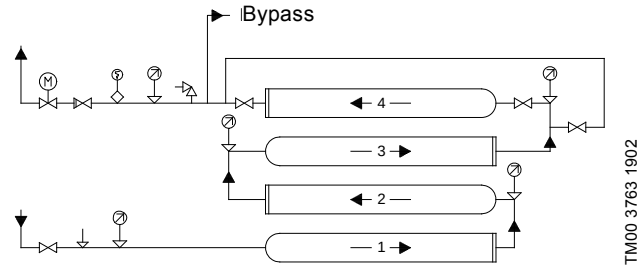

Fig. 9 Booster system with four modules connected in series with bypass, mounted above each other
- For modules connected in series and fitted with a bypass, mounted above each other, we recommend to connect the pipes as shown in fig. 9.